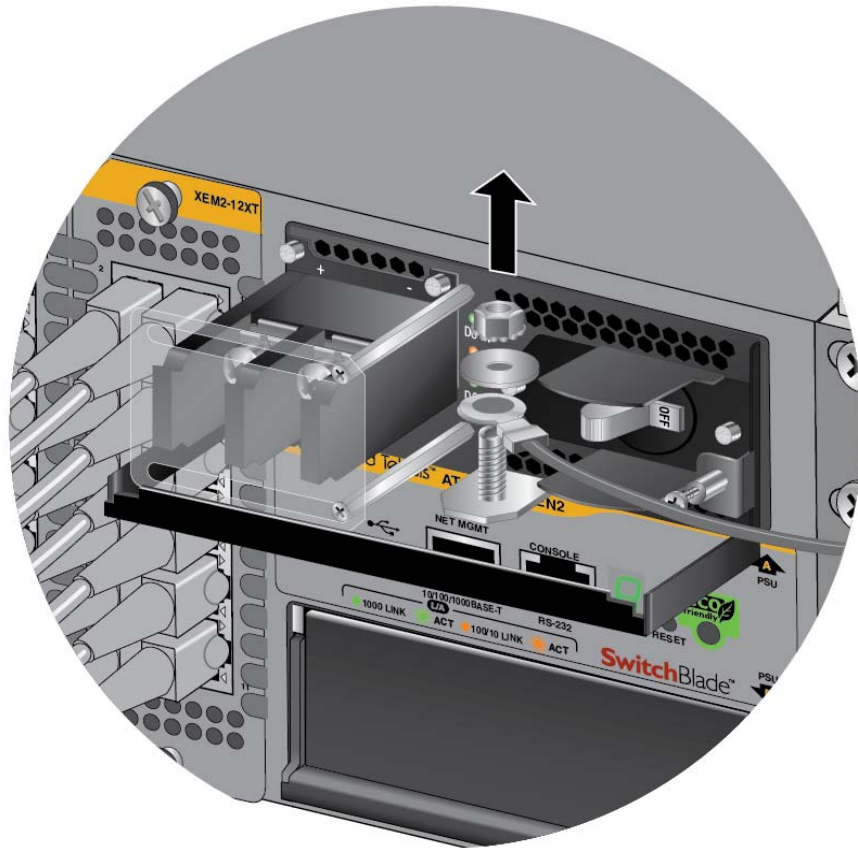

Figure 102. Removing the Grounding Wire
9. Use an 8 mm wrench to remove the grounding wire from the grounding post. Refer to Figure 102 on page 140.